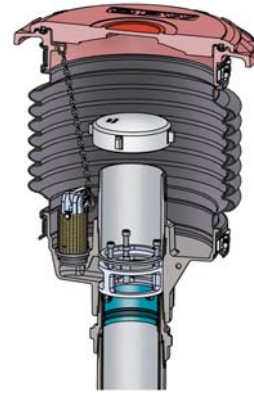

Figure 3
- 4.) Use the TC-400 torque cap and 61SA-TOOL for installing 4" nipples and risers (See figure 3).